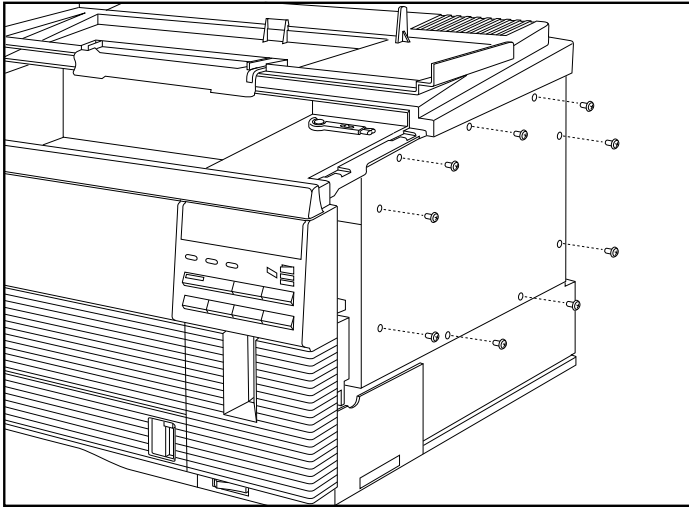

Fig. 9.16 Replace the EMI Shield Screws
12. Replace the 9 screws securing the EMI shield (fig. 9.16).